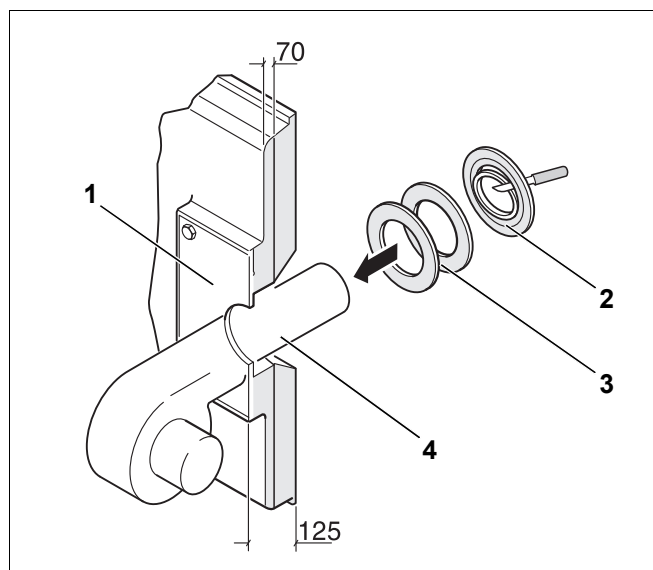

Fig. 28 Burner installation (dimensions in mm)
- Cut using oxy-acetylene or drill the burner plate (Fig. 28, [1]) on site according to the required burner pipe diameter (max. diameter 270 mm). Drill the burner mounting holes according to the hole pattern of the burner connection flange.
- Cut out insulating rings according to the burner pipe diameter (Fig. 28, [2]).
- Fill the remaining gap between the thermal insulation on the burner door and the burner blast tube (Fig. 28, [4]) with suitably adapted insulating rings (Fig. 28, [3]).